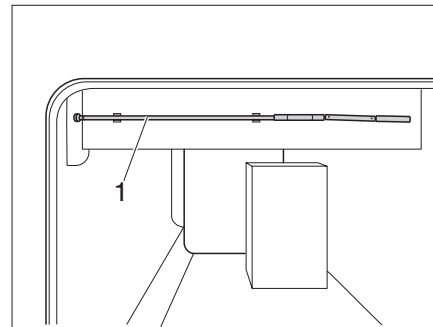

Fig. 91 Crank for height adjustment
- ▶ Remove the crank (Fig. 91,1) from the holder.